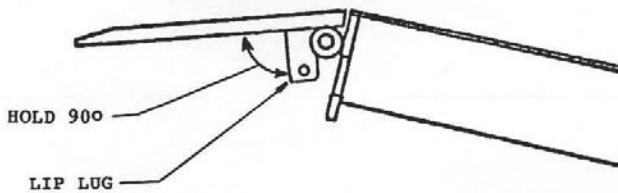

Figure 4
9) Locate the lip lug, in the conversion kit, and remove it from the lip cylinder clevis. Position the lip lug at the location chosen and tack-weld squarely and securely to the lip plate as shown in Figure 4.
Figure 4 is a side view illustration of the lip lug located on, and at 90 degree to the lip plate.